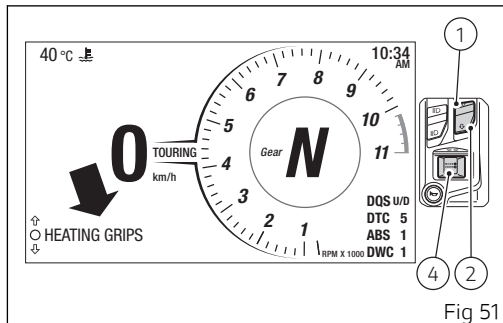

Fig 51
Press button (1) and (2) to select the HEATING GRIPS function inside the function menu (Fig 51).